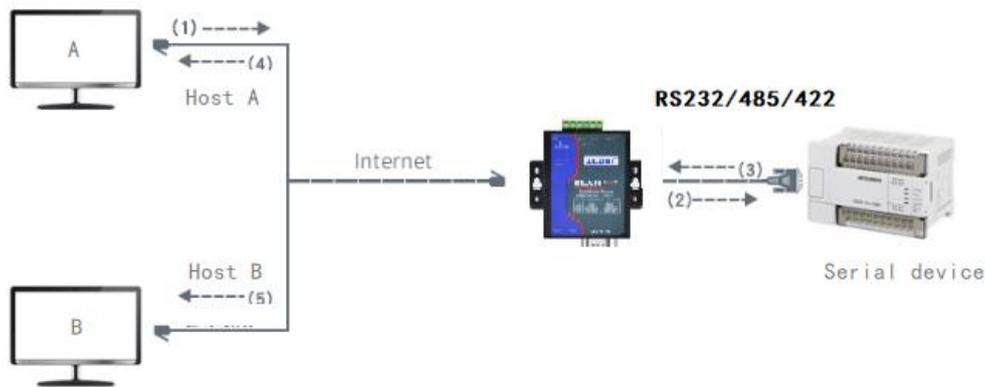

Figure 37 Multi-host function demonstration
As shown in Figure 37, in ordinary mode, when two hosts: host A and host B are connected to the serial port server at the same time, host A sends (1) instruction, the RS485 device receives (2) instruction, and the RS485 device returns (3) instruction, but the port end of the serial port server sends (4) to host A and (5) to host B at the same time. Because host B did not send the query, but it also received the reply instruction (5), host B may generate a communication exception error. In multi-host mode, there will be only instructions (4) and no instructions (5), because the serial server will automatically remember the host that needs to be returned, and only the command will be returned to the most recent communication host, host A queries will only reply to A, host B queries will reply to host B.
As shown in Figure 37, if the serial port device (RTU device) acts as the primary station and the network port device (Modbus TCP device) acts as the secondary station, there are multiple network port secondary devices at the same time. In this case, you can use the serial port server as a client to connect to multiple network ports. For details, see 5.2.2 Connecting a Client to Multiple Servers.